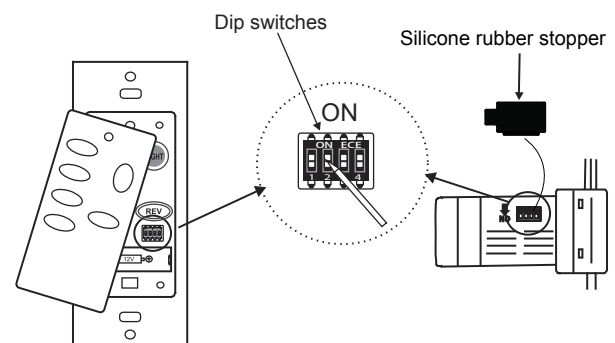

Fig. 13
**NOTE:** The frequencies on your receiver and wall transmitter have been preset at the factory. Before installing the receiver, take out the silicone rubber stopper from the receiver and make sure the dip switches on the receiver and wall transmitter are set to the same frequency. Finally, insert the silicone rubber stopper into the hole on the receiver to cover the dip switches. (Fig. 13)